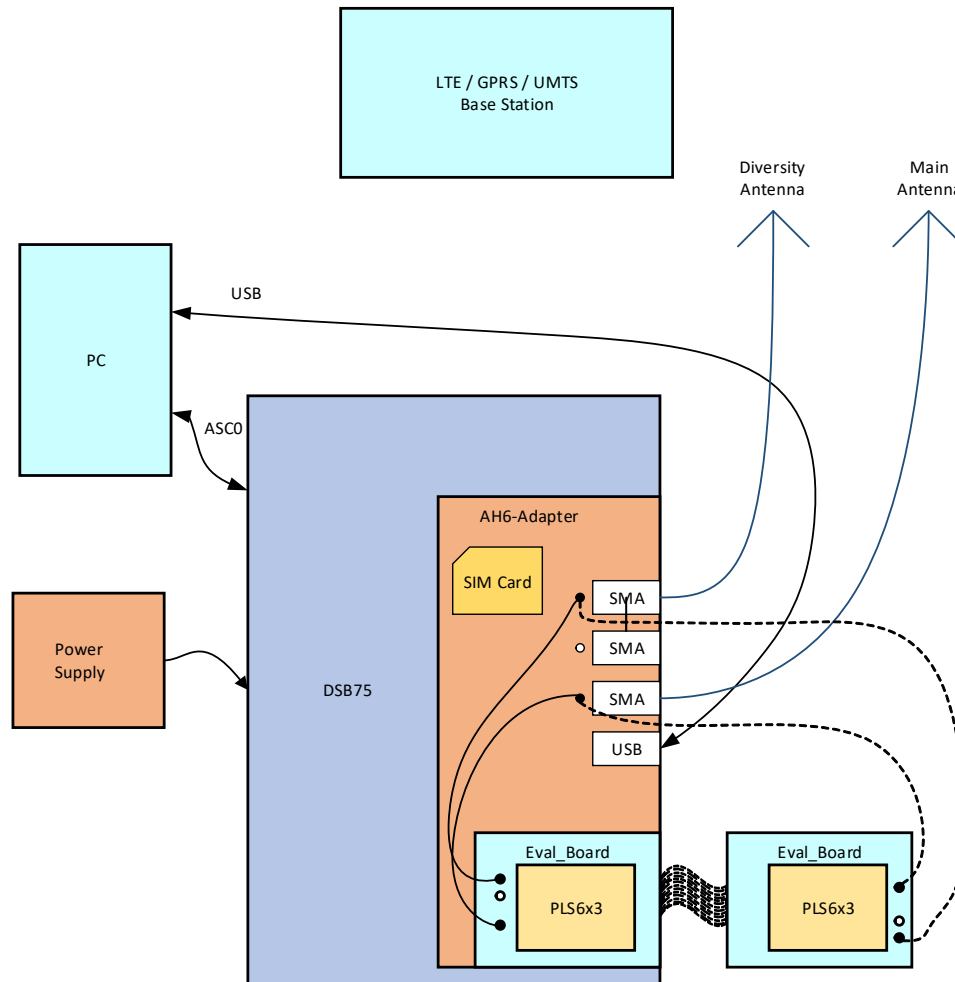

Figure 49: Reference equipment for Type Approval
1. For RF performance tests a mini-SMT/U.FL to SMA adapter with attached 6dB coaxial attenuator is chosen to connect the evaluation module directly to the GSM/UMTS test equipment instead of employing the SMA antenna connectors on the PLSx3-DSB75 adapter as shown in Figure 49. The following products are recommended: